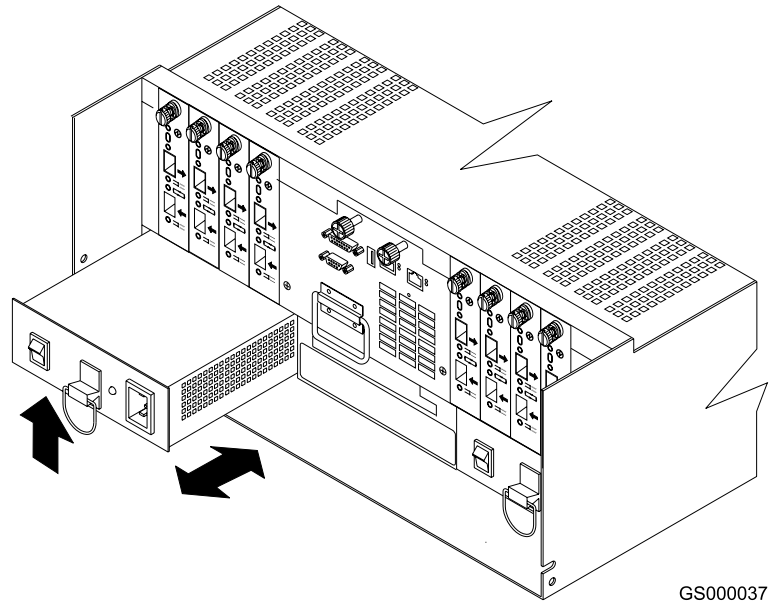

Figure 45. Removing and installing a power supply CRU
3. Using Figure 45 on page 53 as a guide, remove the failed power supply. Lift up and pull out on the pull handle to release the power supply. Then slide the unit out.
5. Install the new power supply, as shown in Figure 45. Using the pull handle, push the power supply into the slot until it locks into place.